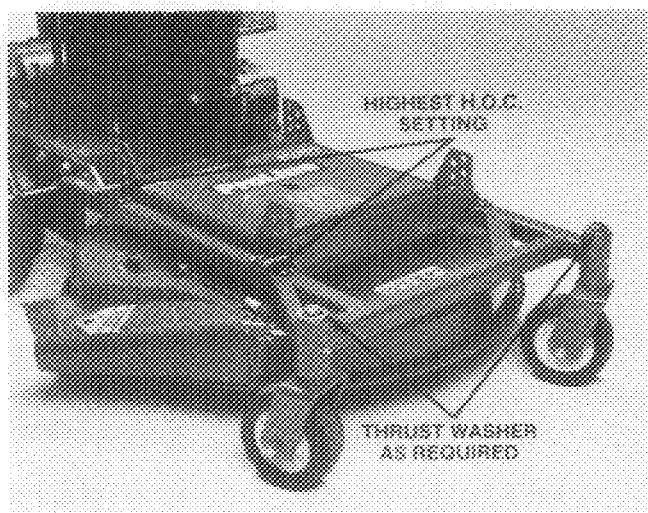

Figure 14
1. Check to make sure front support rod is resting properly on frame cushions (Fig. 14). Make sure blade is not bent: refer to Checking for Bent Blade, page 9. Check air pressure in tires.
2. Raise height-of-cut to the 3-1/2" (89 mm) or 4 in. (102 mm) position (Fig. 14). refer to Adjusting Height-Of-Cut, page 7.
- A. Cutting units usually operated at 1 to 2 in. (25 to 51 mm) height-of-cut should have the low side of the cutting unit raised. Remove the lynch pin securing castor wheel on low end (Fig. 14) and remove castor assembly.
- C. If cutting unit is operated at 2 to 4 in. (51 to 102 mm) height-of-cut, lower the high side of cutting unit. Remove lynch pin of castor at high end of unit and remove castor assembly (Fig. 14).
- D. Transfer one thrust washer from lower side of castor shaft to top side, install assembly and check blade height: refer to items 3 through 7. Repeat procedure if height still does not meet requirements.